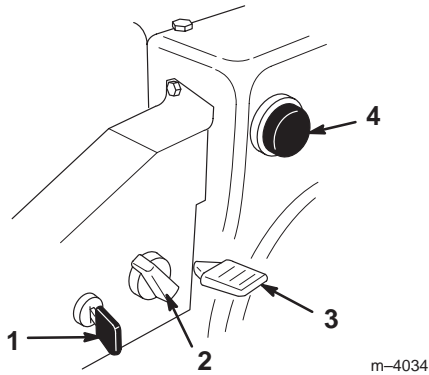

Figure 20
- **Ignition Switch** (Fig. 20)—Insert the key before starting the engine. To stop the engine, remove the key.
- **Choke** (Fig. 20)—Rotate the choke clockwise to the *On* position to start a cold engine. As engine warms up, gradually rotate the choke counterclockwise to the *Off* position.
- **Throttle** (Fig. 20)—Move the throttle upward to increase the engine speed; move it downward to decrease the engine speed. Move the throttle to the *Stop* position to stop the engine.
- **Primer** (Fig. 20)—Press the primer to pump a small amount of gasoline into the engine for improved cold-weather starting.
2. Remove the key from the ignition switch (Fig. 20).
3. Pull the choke knob off (Fig. 20).
5. Rotate the choke (Fig. 20) to the *On* position.
6. Insert the ignition key (Fig. 20).
7. Cover the hole in the center of the primer (Fig. 20) with your thumb and push in the primer three times, pausing a moment between pushes.
9. After the engine starts, immediately rotate the choke (Fig. 20) to the $3/4$ position. As the engine warms up, rotate the choke to the $1/2$ position. When the engine warms up sufficiently, rotate the choke to the *Off* position.